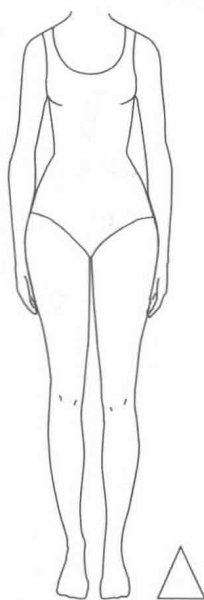

FIGURE 4.32
- The triangular figure is not balanced. There is more body weight in the lower torso—the buttocks and side-thighs, giving the “saddlebag” effect. The figure is often said to be bottom-heavy (see Figure 4.32).